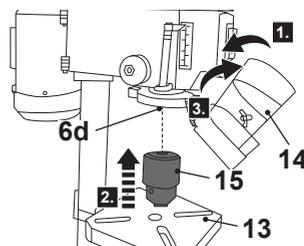

Fig. 6
1. Fold up the chuck guard (14) (Fig. 6, step 1).
2. Assemble the drill chuck (15) onto the spindle (6d) (Fig. 6, step 2).
3. Place a scrap piece of wood on the drill table (13).
4. Rotate the feed handles (7) to lower the drill chuck (15) to the lowest position and apply downward pressure to force the drill chuck onto the spindle (6d).
5. Fold down the chuck guard (14) afterwards (Fig. 6, step 3).